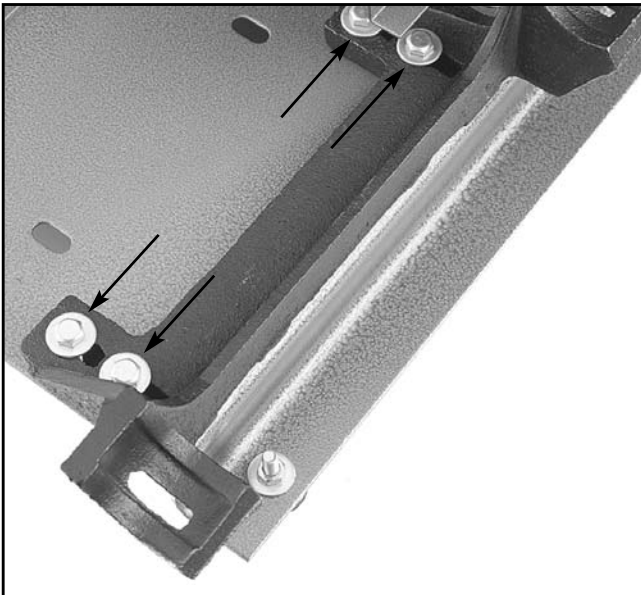

Figure 5. Table support mounted on base.
3. Attach the Disc Table Support to the base using the four (4) $\frac{5}{16}$ " - 18 x $1\frac{1}{4}$ " hex bolts, eight (8) $\frac{5}{16}$ " washers, and four (4) $\frac{5}{16}$ " - 18 hex nuts. **See Figure 5.** Finger tighten for now.